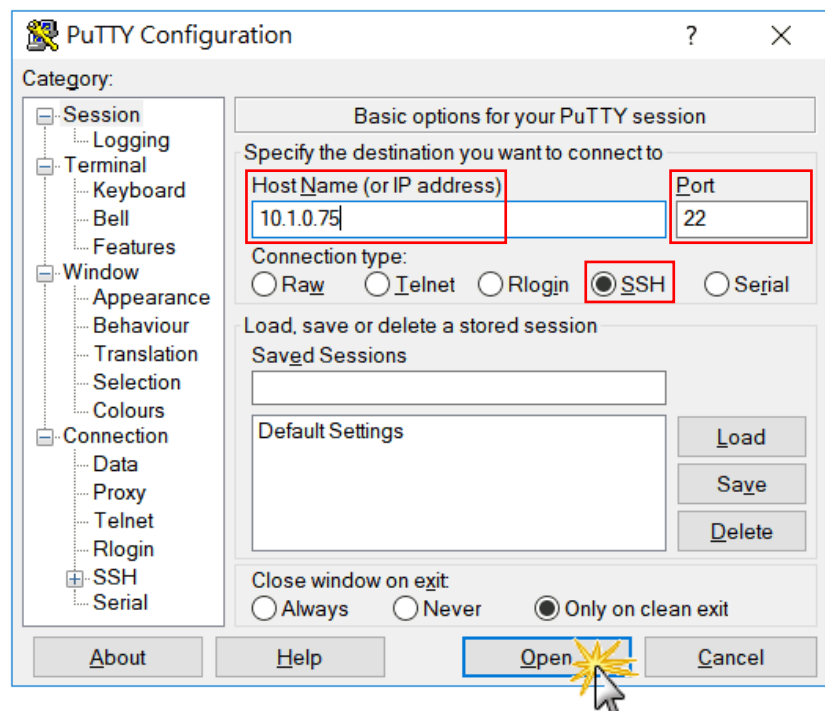

Figure 2.6-2. Using 'Putty' utility to connect the LinPAC
Step 2: User can use SSH client software (Putty or others) to connect the LinPAC. (Refer to the Figure 2.6-2)